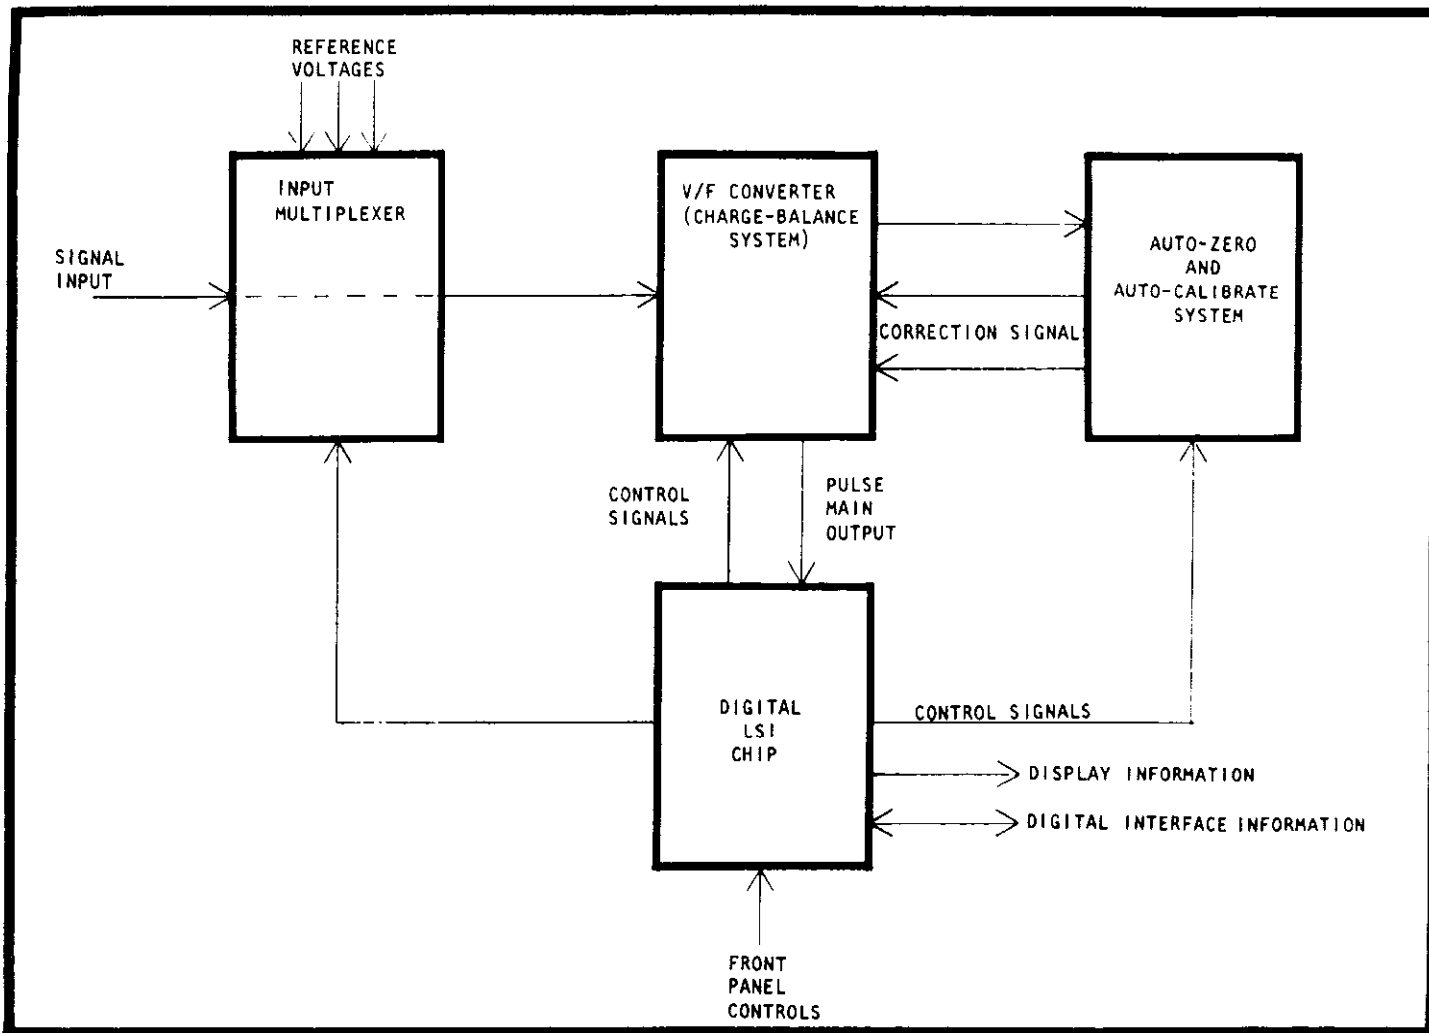

FIGURE 27. Basic Functional Blocks of A/D Converter.
1. The A/D converter, as its name implies, performs the function of generating a digital representation of an analog voltage applied to its input. The basic functional blocks involved in this process are shown in Figure 27. This A/D converter has several distinct modes of operation, broadly grouped as "signal-measurement mode" and "error-correction mode". It can be seen that the transformation from voltage input to display output occurs in two major blocks. The first block (V/F Converter) generates a digital pulse train whose frequency is proportional to the input voltage. The second block (digital chip) contains circuitry which counts the incoming pulses for a fixed time period, producing a total count which is proportional to the average of the input voltage over that time period.